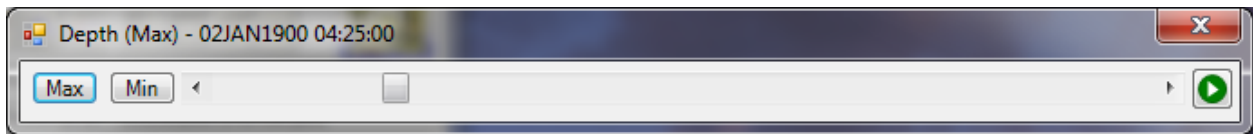

**Figure 57. Tile Cache Options Editor.**
**Export Map for use in Google Map/Earth Viewers** – This option will export the Depth grid to what is termed a Tile Cache (before doing this the user must set the spatial projection using the **Set Projection for Project** option from the RAS Mapper **Tools** menu). A Tile Cache is a series of files (256X256 pixels) with different resolutions, written out using a pyramided and tiled scheme that meets Google’s mapping specifications (i.e., there will be several directories, each one representing a different resolution). When this option is selected, the window shown in Figure 57 will appear.